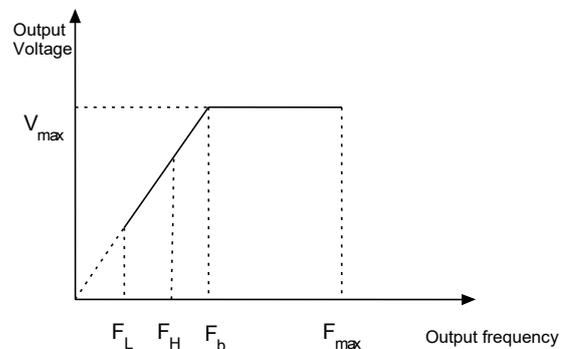

Fig.6-1 Characteristic parameters
Max output frequency is the highest permissible output frequency of the drive, as shown in Fig. 6-1 as  $F_{max}$ ;
Max output voltage is the highest permissible output voltage of the drive, as shown in Fig. 6-1 as  $V_{max}$
Upper limit of frequency is the highest permissible operating frequency of the user setting, as shown in Fig. 6-1 as  $F_H$ .
Lower limit of frequency is the lowest permissible operating frequency of the user setting, as shown in Fig.6-1 as  $F_L$ .
As shown in Fig. 6-1 as  $F_b$ , Basic operating frequency is the Min. frequency when the drive outputs the max voltage in V/F mode.
- 4 . The Max. output frequency, upper limit frequency and lower limit frequency is as shown in Fig.6-1.